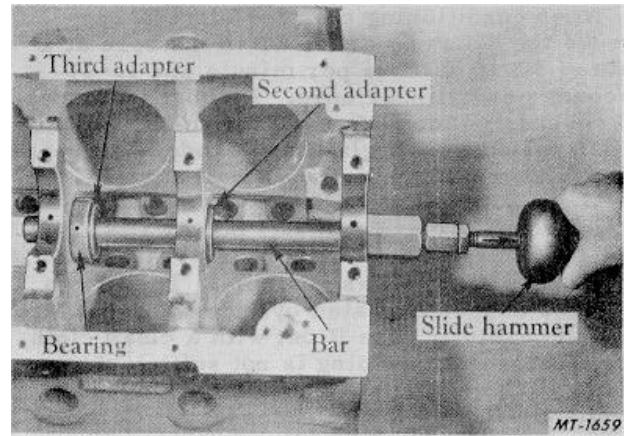

Fig. 65 Removing Third Bearing
1. Position the second adapter SE-1897-8 in the second bearing with the flange toward the rear of the block, Fig. 65.
2. Position the third adapter SE-1897-9 in the third bearing with the flange toward the rear of the block, Fig. 65.
4. Using the second adapter as a pilot, pull the third bearing with the slide hammer, Fig. 65, NOTE: Always hold the adapter firmly against the bearing being removed or installed to avoid damage.